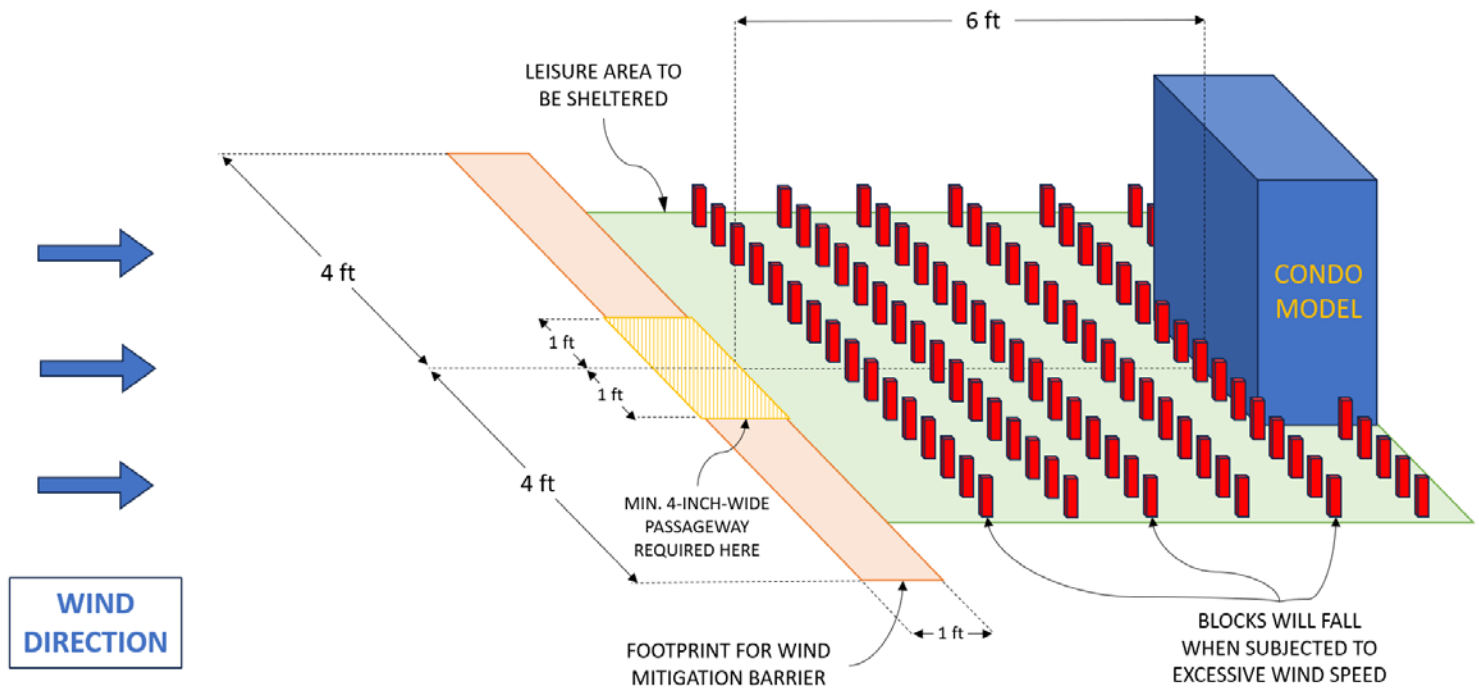

Figure 1: Scale model of condominium property with the area for wind mitigation.
1.1 The objective for the 2024 *WOW Mitigation Challenge* is to design a wind mitigation barrier that will provide the best wind mitigation for a Miami Beach condominium property. Imagine a six-story condominium building situated along the beach, and between the building and the beach is an outdoor leisure area that needs to be protected from wind off the Atlantic Ocean. Theoretically, this leisure area could include things like a pool, activity/entertainment space with a small pavilion and seating area. Figure 1 illustrates the Challenge scaled down by about a factor of 25.
- 2.3 The wind mitigation barrier model can be no more than 9 inches high and multiple barrier models (e.g. one behind the other or overlapping) are permitted just so long as they remain within the 1 ft. by 8 ft. area shown in Figure 1. The wind mitigation barrier models can be straight or curved, porous, or solid.
- 2.4 The wind mitigation barrier model must have a minimum 4-inch-wide by 4-inch-tall passageway within +/- 1 ft. of the center of the barrier model(s) which allows condominium residents to have access to the beach. The passageway does not have to be straight. See Figure 1.